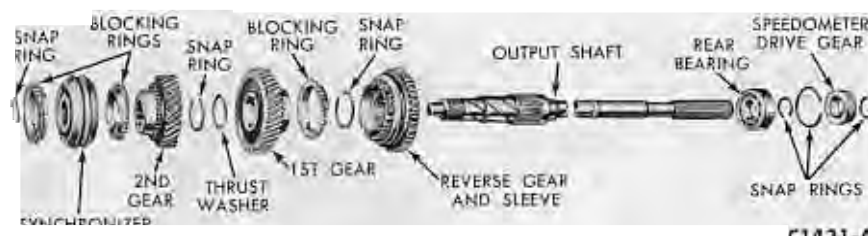

FIG. 12—Output Shaft—Disassembled
21. Remove the snap ring from the front of the output shaft, then slide the synchronizers and the second speed gear (Fig. 12) off the shaft.
6. Slide the first and reverse gear and sleeve (Fig. 12) onto the output shaft with the teeth end of the gear facing toward the rear of the shaft. Secure it in place with the snap ring.